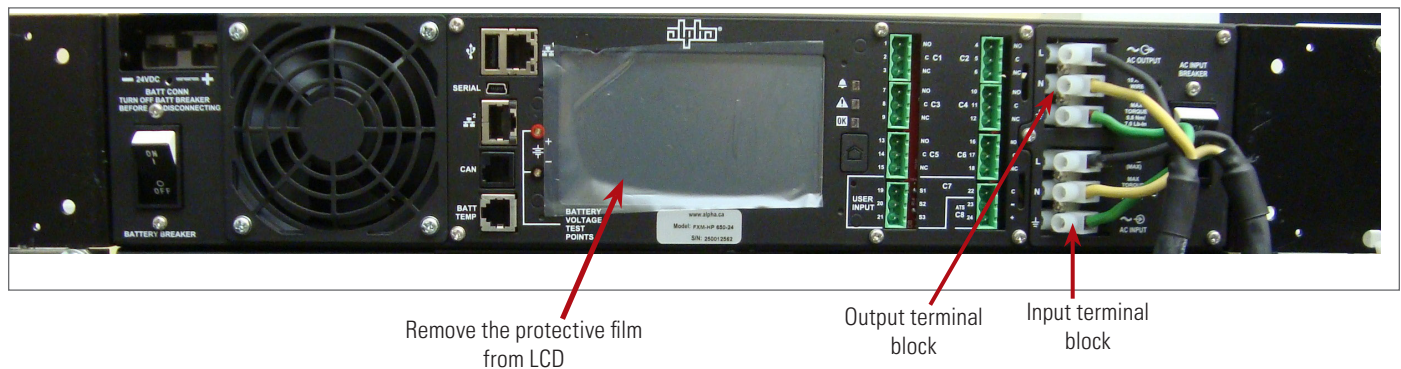

Figure 13: Connecting AC power input and output load cables
- Connect the load cable to the FXM UPS output terminal block (see Figure 13). Torque to 1.4 Nm (12 in-lb).
- Connect the line power to the FXM UPS AC input terminal block (see Figure 13). Torque to 1.4 Nm (12 in-lb).